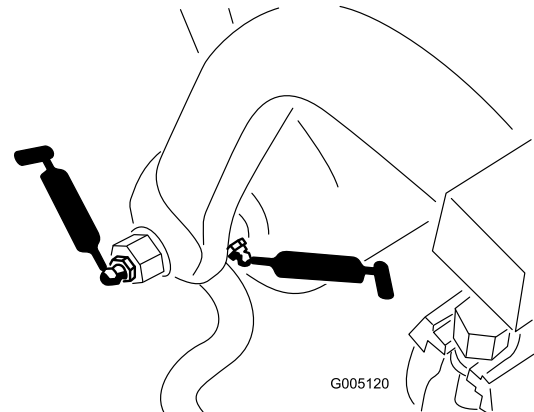

Figure 42
- Pull frame shaft and roller (12) (Figure 42)